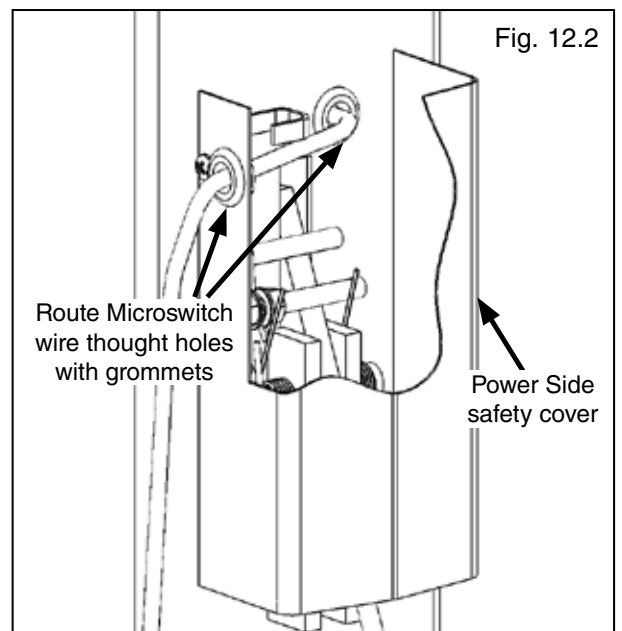

Fig. 12.2
2. Route Microswitch wire through the hole in Power Side post with rubber grommet. Loosely position Power Side safety cover and run other end of Microswitch wire through hole with grommet in Power Side safety cover. (See Fig. 12.2)